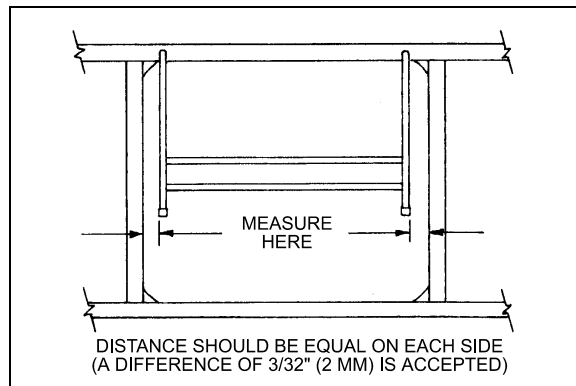

FIGURE 59: PANTOGRAPH DOOR ADJUSTMENT 18063
5. When the door is straight, remove the 2x4's and check door operation and fit. A difference of $\frac{3}{32}$ " (2mm) between both sides is accepted (Fig. 59).